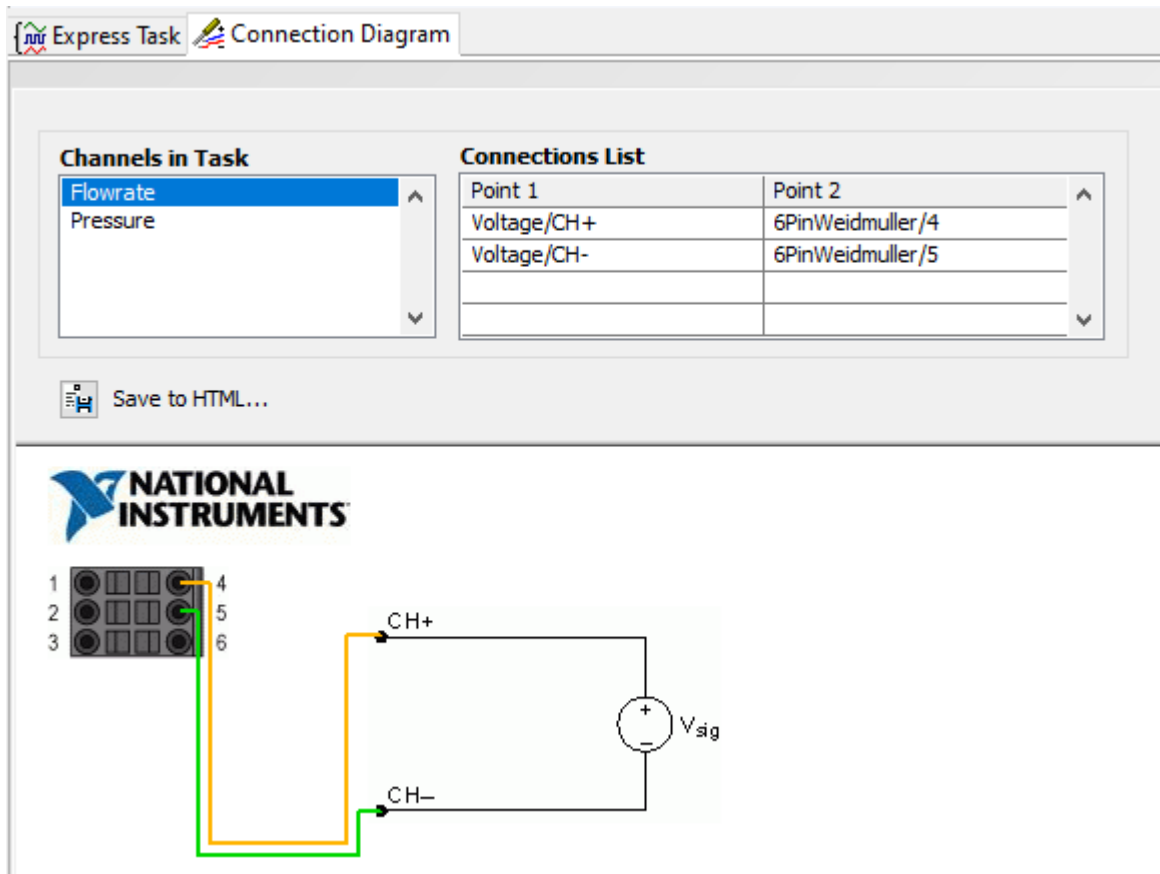

Figure 9 Connection diagram indicating the terminals and their polarities of Channel ai0 of the analog module to use when wiring the flowmeter to the DAQ.
2. Insert the negative lead from the flowmeter into Terminal 5 (as indicated in Figure 9) of Channel ai0 using the wiring tool.